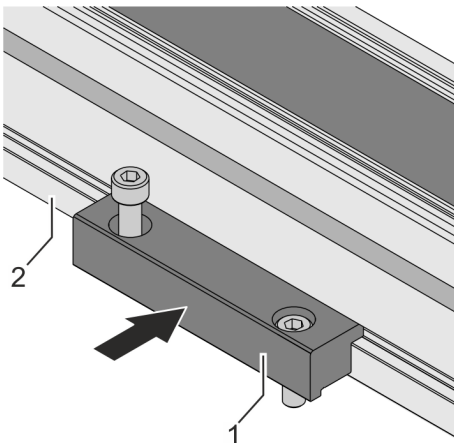

Fig. 18: Inserting clamping bars
1. ➤ Insert clamping bars (Fig. 18/1) into the slot of the guide profile.
Depending on the length of the linear unit, 2 or more clamping bars must be inserted on each side of the guide profile (Fig. 18/2).